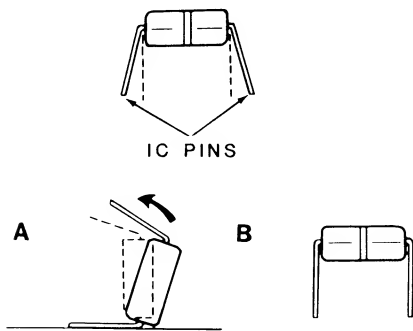

Figure 18-4. Straightening the Pins of the 8087
4. Refer to Figure 18-4. Before you install the 8087 in the computer, lay it down on its side as shown. Carefully roll it to bend the lower pins into alignment. Then turn the 8087 over and bend the pins on the other side in the same manner.